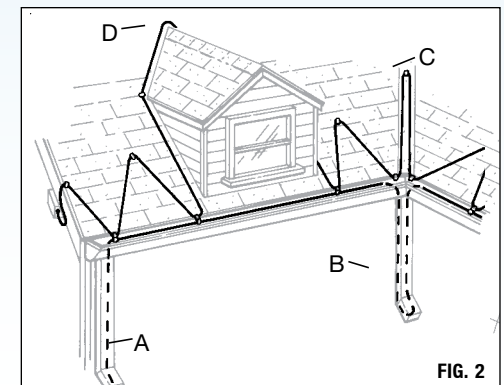

FIG. 2
- 2 Add cable for downspout (A in figure 2). NOTE: if a downspout is located anywhere *other than* at the end of the cable routing, that downspout will require double length of cable (B in figure 2).
- 3 Add extra cable for valleys (6' per valley, C in figure 2) and around dormers (D in figure 2).